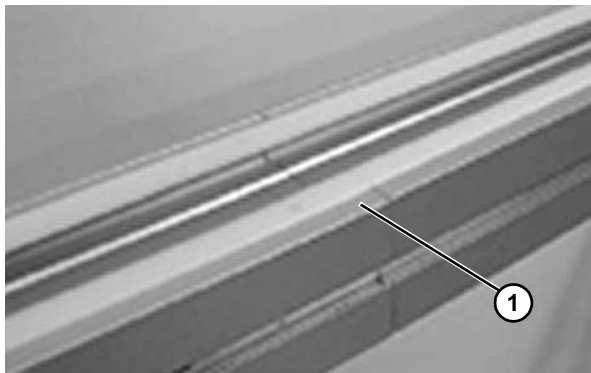

Figure 33
4. The slide rail (**Figure 33, item 1**) must be mounted across the entire beam section. Remember to mount slide rails on both top and bottom side of the beam (unless top running chain only).